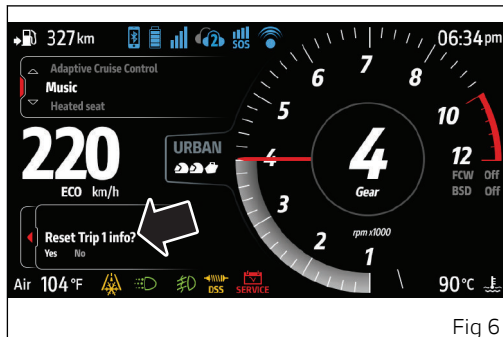

Fig 6
- the window with "Reset Trip 1 info?" and the items "Yes" and "No" that can be selected using the joystick (LH ◀ and RH ▶) is displayed (Fig 6);
It displays the average consumption of the motorcycle, calculated from the last reset of Trip 1. Value is expressed in the set unit of measurement (km/L, l/100 km, mpg UK, mpg US). By pressing the joystick in the middle you can reset Trip 1 (Fig 6).
It displays motorcycle average speed together with the set unit of measurement (km/h or mph), calculated from last reset of Trip 1. By pressing the joystick in the middle you can reset Trip 1 (Fig 6).
It displays trip time in "hours:minutes", calculated from the last reset of Trip 1. By pressing the joystick in the middle you can reset Trip 1 (Fig 6).